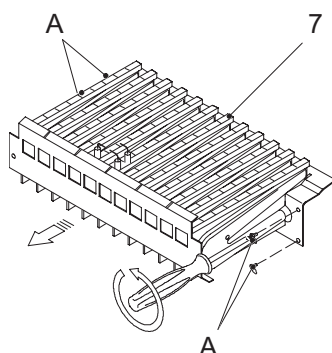

Figure 16.1
- Loosen the screws A and remove the burner 7 (Figure 16.1).